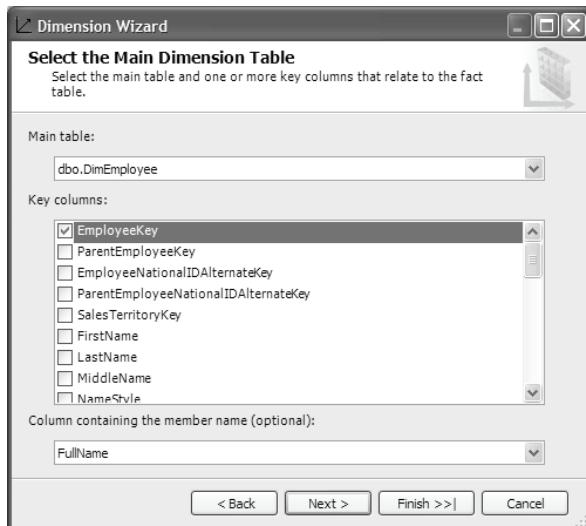

Figure 3.16 In the Select the Main Dimension Table step, you select the dimension table and the dimension key.
- The Select the Main Dimension Table step (Figure 3.16) is the most important step. Here, you need to tell the Dimension Wizard which table the new dimension will be based on. Select DimEmployee table.